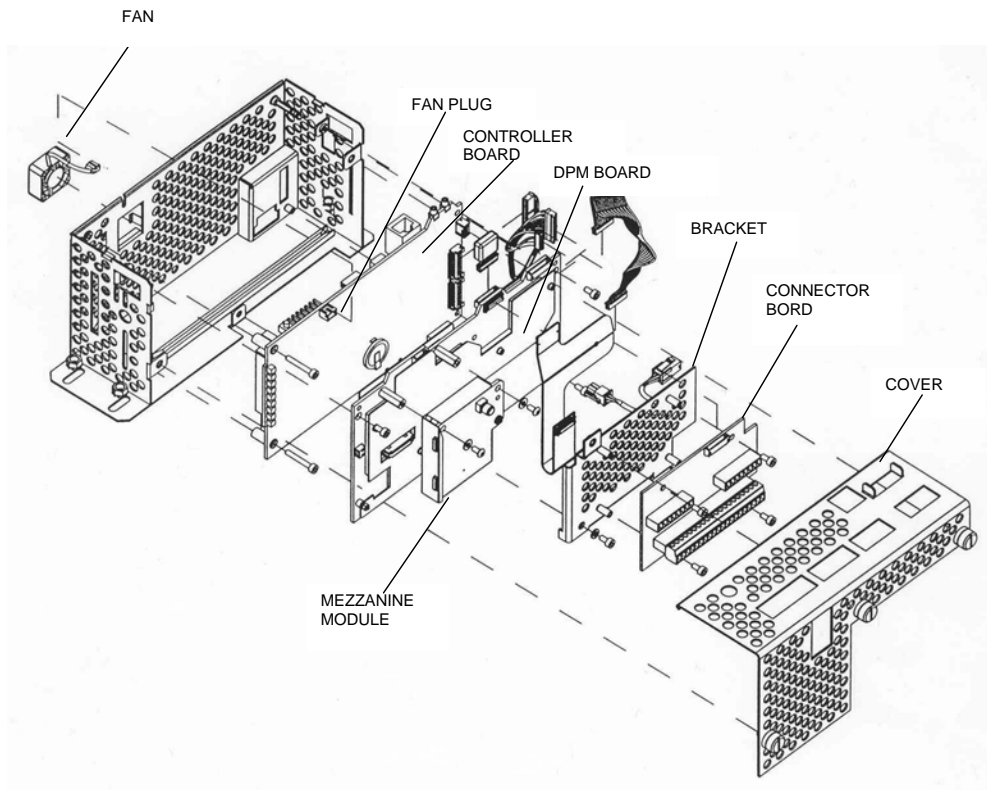
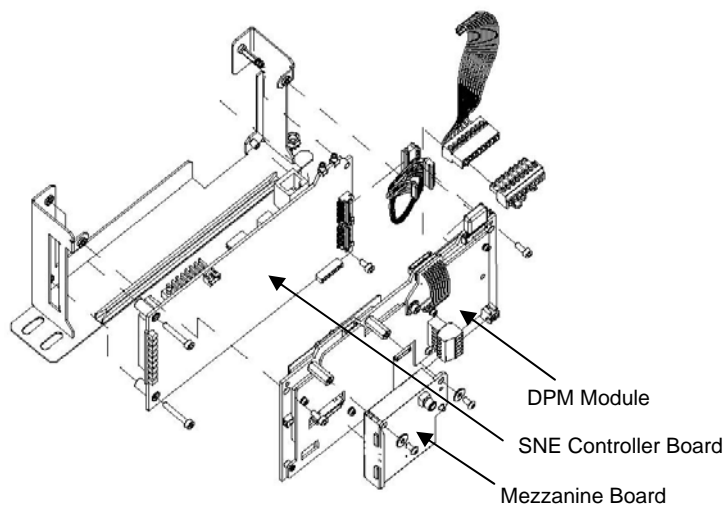

Figure 4-7: Old SNE Assembly
Figure 4-8: New SNE Assembly
Up to a total of three SNE modules can be installed within a single electronic enclosure. The removal and installation procedures presented in this section are applicable to each installed SNE; refer to Figures 4-7 through 4-10 for reference.
To replace a SNE installed board, it is necessary to remove the SNE from the EC. See Figure 4-7 (old assembly) or 4-8 (new assembly) for the following procedures.
3.	See Figure 4-7 or 4-8, the controller board is located in the expansion slot against left side of the assembly. This board incorporates LED status lights. Remove all external cables to and from the Controller board. Note cable locations.
3.	Refer to Figure 4-7 or 4-8 and remove the attaching hardware securing the mezzanine module to the controller board.
To replace a DPM it is necessary to remove the SNE from the EC. See Figure 4-7 (old assembly) or Figure 4-8 (new assembly) for the following procedure.